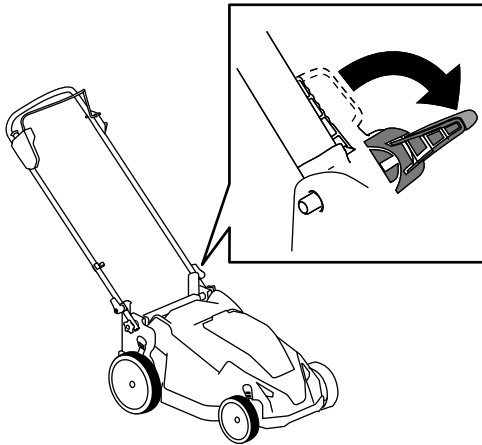

Figure 22
3. Disengage the handle locks (Figure 22).
2. Disengage the handle locks until you can move the upper handle freely (Figure 22).